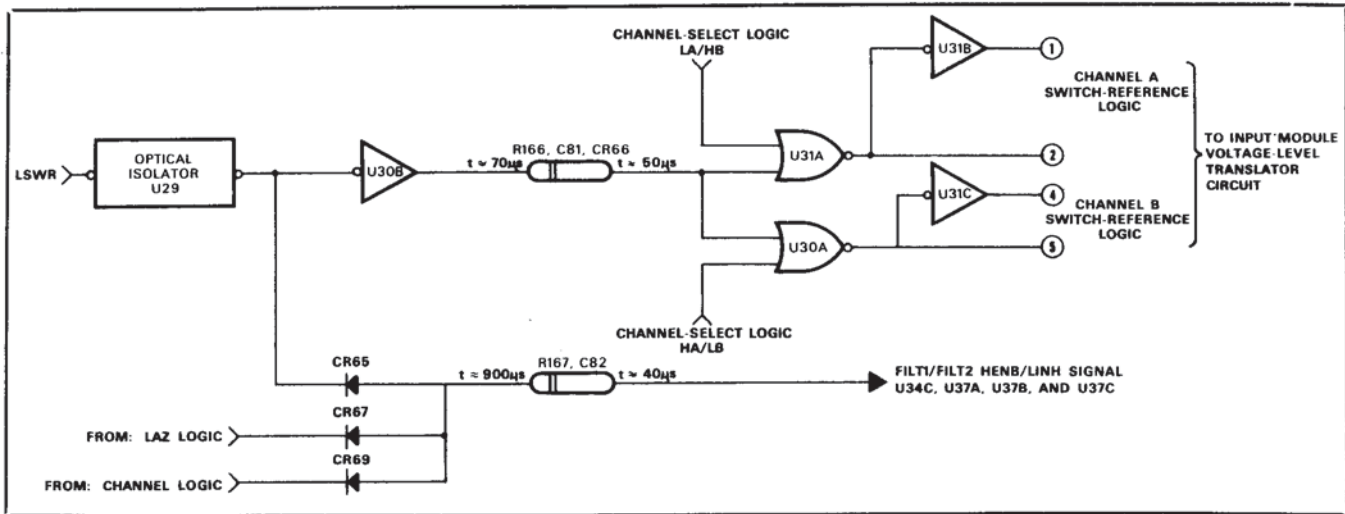

Figure 7-47. Channel A&B SWR Logic Circuit, Simplified Schematic
- b. Channel A&B SWR Logic Circuit. This circuit inverts and delays the input LSWR (switch-reference) signal and gates it with a channel-select signal from the demultiplexer logic circuit. The circuit gating action produces Channel A and Channel B switch-reference control signals. The circuit also temporarily inhibits logic gates in the smoothing logic circuit when the LSWR input signal goes LOW. A simplified schematic of this circuit is shown in Figure 7-47.
The LSWR control line (Figure 7-47) is applied to optical isolator U29. U29 optically couples the LSWR signal to inverter U30B and diode CR65, which functions as an OR gate. CR65, when it becomes forward biased, causes NAND gates U34C, U37A, U37B, and U37C to become inhibited. The circuit action of the R167/C82 delay circuit is the same as described in subparagraph a., above. U30B inverts the output of U29 and applies it to the R166/C81/CR66 delay circuit. This circuit delays the signal 70  $\mu$ s and then applies it to NOR gates U30A and U31A. The output logic states of U30A and U31A are as follows: